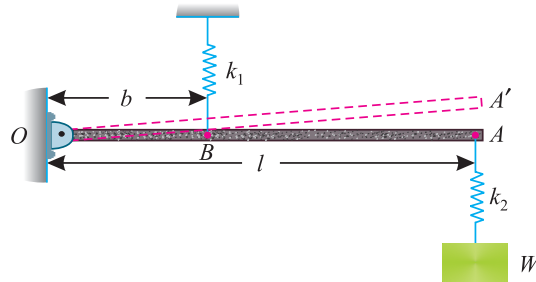

Fig. 26.9.
**Example 26.14.** A block whose weight =  $W$  is suspended by means of a spring whose spring constant =  $k_2$  from the end of a rigid weightless beam, which is of length  $l$  and hinged to a wall by a frictionless connection at its left. It is held in a horizontal position by a spring whose spring constant =  $k_1$ , attached to it at a distance  $b$  from the hinge end to the ceiling as shown in Fig. 26.9.
**Solution.** Fig. 26.9 shows  $OA$  the cantilever beam in the horizontal position with springs of constant  $k_1$  and  $k_2$  and weight  $W$  attached at  $A$ . A little consideration will show, that if the weight  $W$  is removed, the cantilever will spring upwards and  $A$  will occupy a new position  $A'$  as shown in the figure.